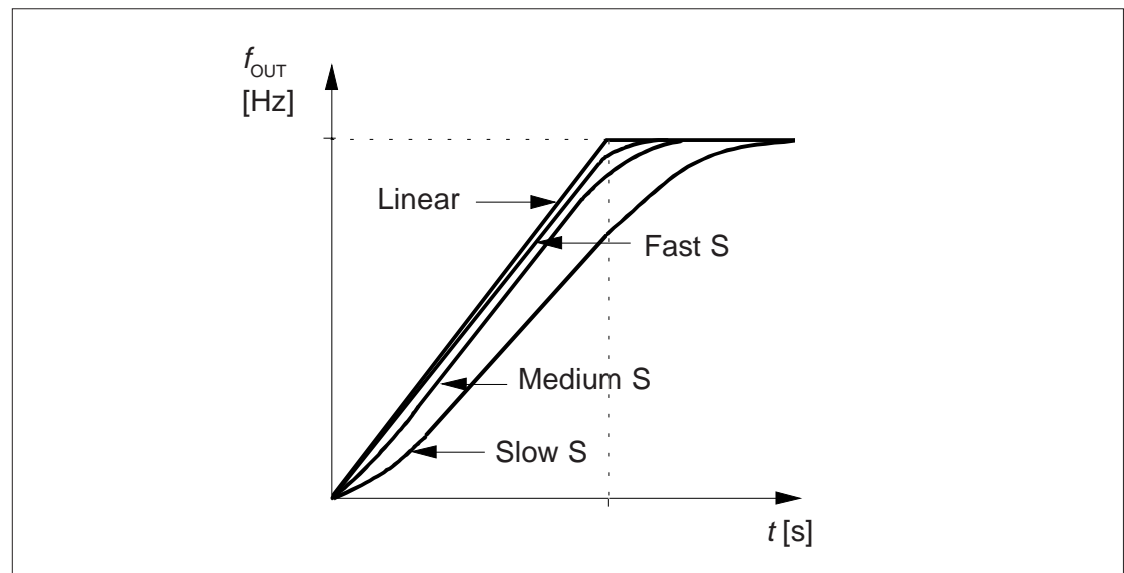

Figure 7-2. Acceleration/deceleration ramp shapes.
**RAMP** This parameter allows you to select the shape of the acceleration/deceleration ramp as shown in figure 7-2. The available options are: